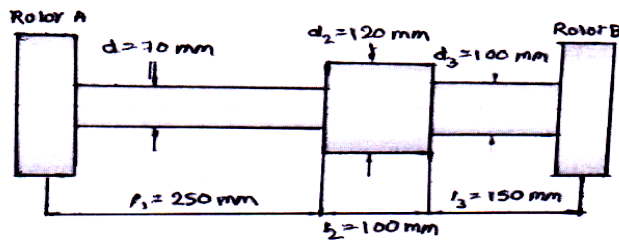

Fig.4
- Q8) a)** Two rotors A and B as shown in fig.4 are attached to the ends of a shaft of 500 mm length. The mass of rotor A is 30.58 kg and its radius of gyration is 300 mm. The corresponding values for rotor B are 50.96 kg and 450 mm respectively. The shaft is 70 mm diameter for the first 250 mm, 120mm diameter for the next 100 mm length and 100 mm diameter for the remaining length. The modulus of rigidity of the shaft material is  $0.8 \times 10^5$  MPa. Find the position of the node and the frequency of the torsional vibrations. [12]